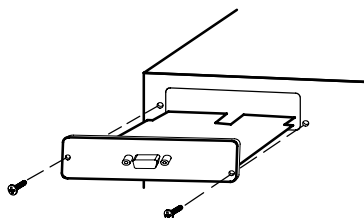

Figure 5. Removing the Single-Port Module
1. Remove the X-Slot cover (or existing X-Slot module) on the UPS rear panel. Retain the screws (see Figure 5).